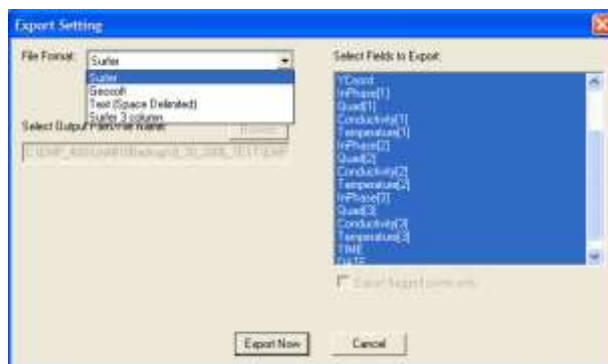

Figure 95: MagMap2000 File Header display.
5. The file is now ready to be exported. From the MagMap2000 Main menu toolbar, select **File > Export**. This will bring up the Export Setting dialog box (Figure 95).
tab. After designating a file name and the target directory for the export file, select **Export Now**. In this example (Figure 95) we have chosen a SURFER*.dat file type.